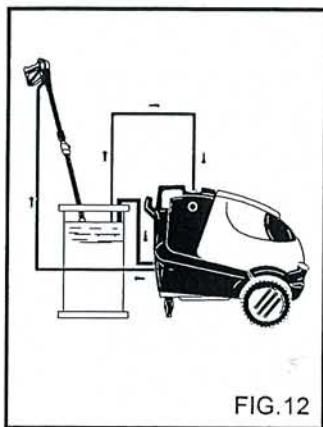

FIG. 12
**FREMGANGSMÅTE VED BRUK AV DEFROSTER (fig. 12)**